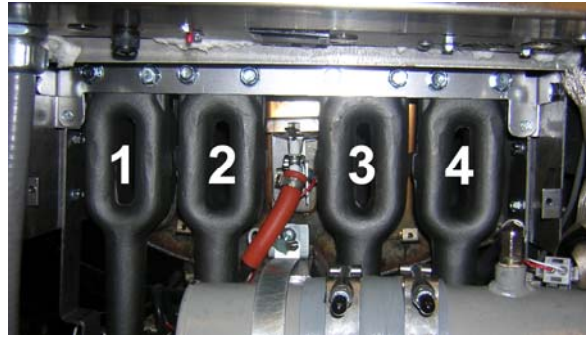

Figure 16: Reinstall the burners in the following order: **1, 4, 2, 3.**
7. Starting at the left, reinstall the burners in the following order (Figure 16):